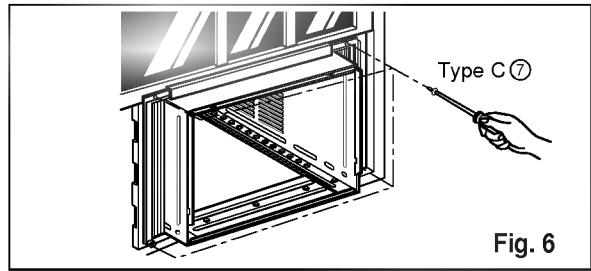

Fig. 6
9. Attach each Frame curtain the window sash using screws ✕ (Type C).(See Fig. 6)